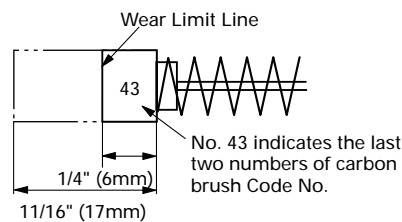
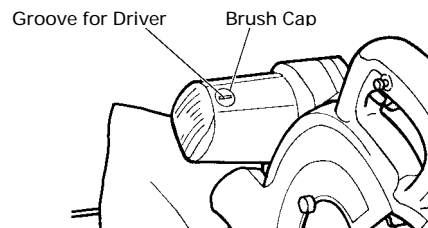

Fig. 53
Fig. 54
- (1) Loosen the 8mm nut and tighten the two 8mm hexagon socket set screws until the power tool operates smoothly without looseness.
- (2) Properly tighten the 8mm nut after completing these adjustment.
3. Inspecting the carbon brushes (Fig. 53 and Fig. 54)
Therefore, inspect the carbon brushes periodically and replace them when they have become worn to the wear limit line as shown in Fig. 53.
The carbon brushes can easily be removed after removal of the brush caps (see Fig. 54) with a slotted (minus) screwdriver.